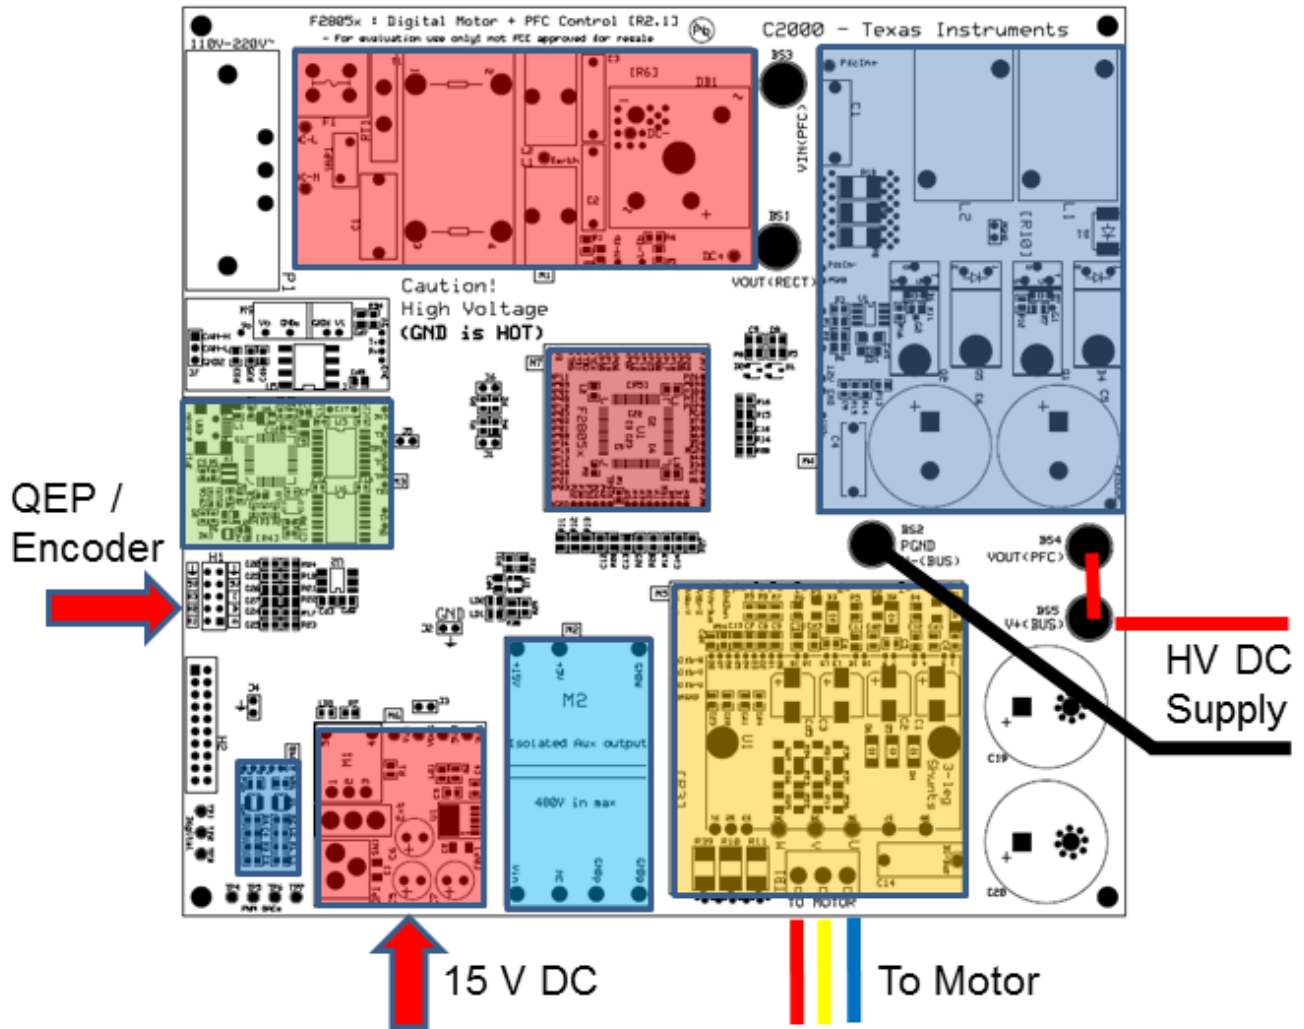

Figure 2. Using an External Power Supply to Provide the DC Bus Voltage for the Inverter
- (c) Connect [Main]-BS5 and [Main]-BS4 as the CPU senses bus voltage information from the PFC output stage where [Main]-BS4 is. (See Figure 2.)